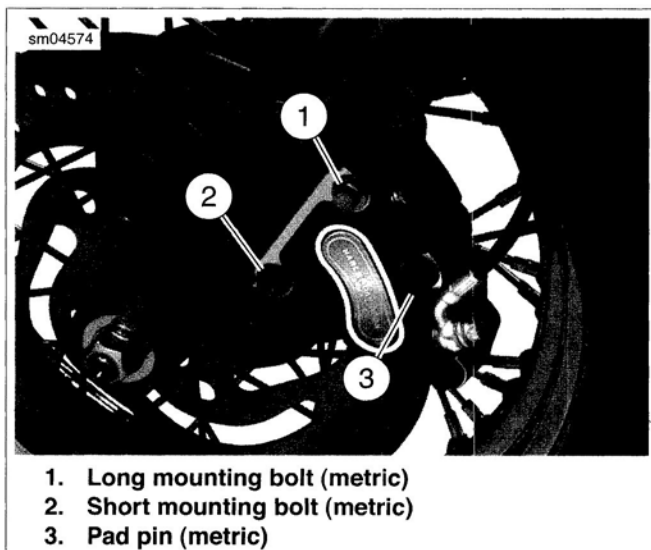
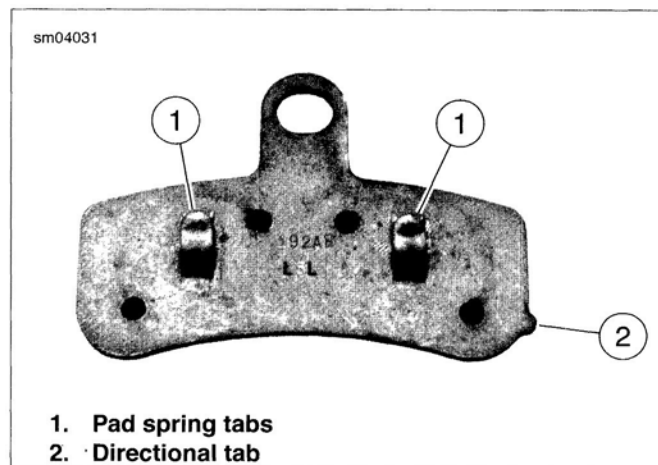

Figure 1-40. Front Brake Caliper (Left Side Shown)
Figure 1-41. Front Brake Pad
2. See Figure 1-40. Loosen, but do not remove bridge bolt/pad pin (3) (metric).
- See Figure 1-41. Ensure the pad spring tabs (1) on brake pad engage the pad springs in the pistons.
- If the directional tab (2) does not face down when caliper is installed, brake noise may develop.
7. Install **new** pads into caliper. The directional tab (2) must face down when caliper is installed.
- a. See Figure 1-40. Place caliper over brake disc with bleeder valve facing upward.
- b. Loosely install long mounting bolt (1) (metric) into upper hole on fork leg.
- c. Install short mounting bolt (2) (metric) into lower hole on fork leg. Tighten bottom mounting bolt to 28-38 ft-lbs (38.0-51.5 Nm).
- e. Final tighten center bridge bolt/pad pin (3) to 15-16 ft-lbs (20.3-22.6 Nm).